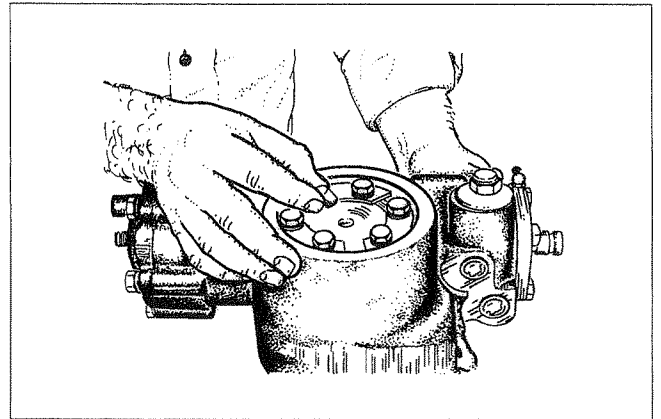

Figure 36
7. Install the sector shaft cover. Install the plug in the cover (Figure 36).